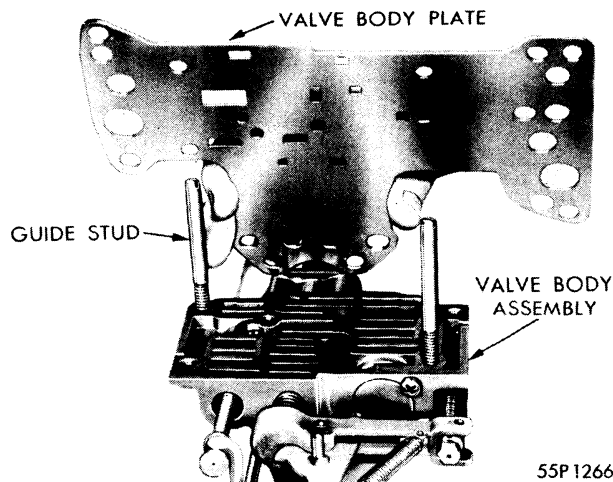

Fig. 118—Removal of Valve Body Plate
- (4) Remove valve body plate from valve body. (Fig. 118.) Servo pressure bleed valve may